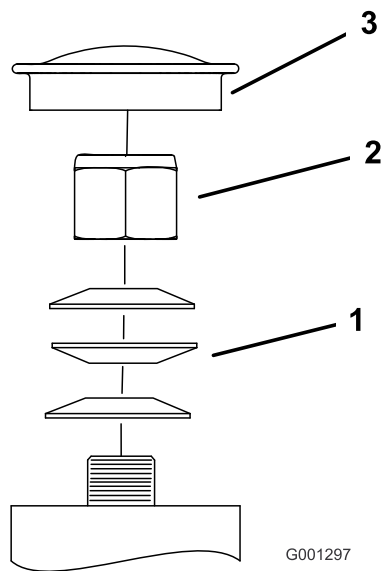

Figure 58
3. Remove the dust cap from the caster and tighten the lock nut (Figure 58).
4. Tighten the locknut until the spring washers are flat, and then back off a 1/4 turn to properly set the preload on the bearings (Figure 58).
5. Install the dust cap (Figure 58).
Important: Make sure that the spring washers are installed correctly as shown in Figure 58.